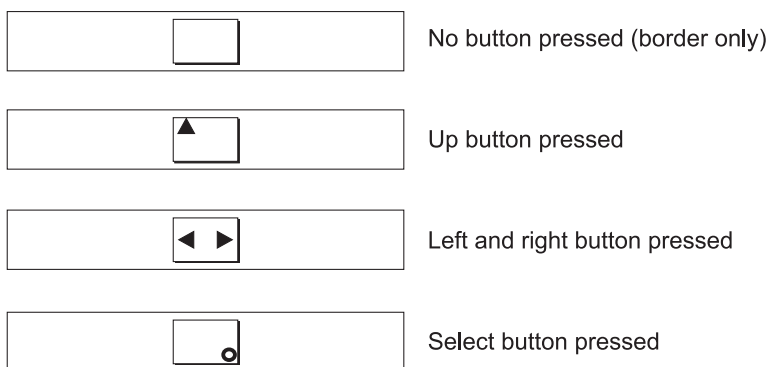

Figure 48. Front-panel display when push buttons are pressed
3. Press the up, down, left, and right buttons to verify that they are working. Figure 48 shows four examples of what the front panel should display when you press the buttons. After you finish testing the buttons, press and hold the select button for five seconds to exit the test.